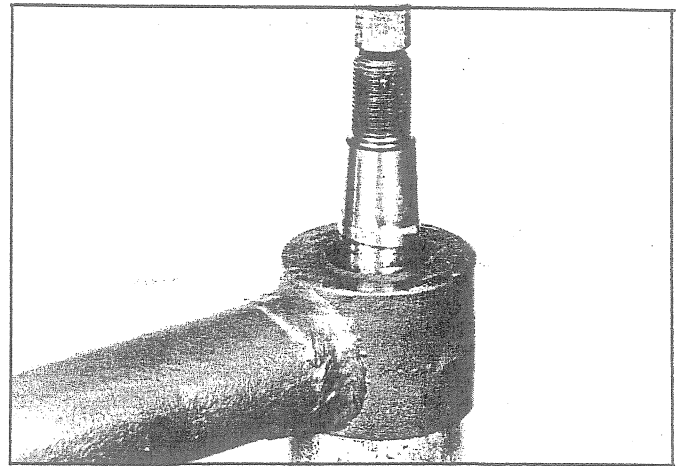

Fig. 132 - Pressing Ball Stud from Housing
2. Press ball stud from tie rod housing as shown in Fig. 132.